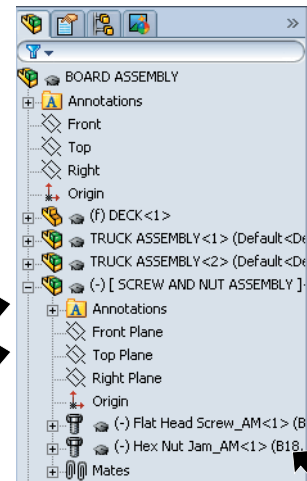

Fig. 14
Step 4. **Repeat and drag the Hex Nut** into new **SCREW AND NUT ASSEMBLY**, **Fig. 14**.